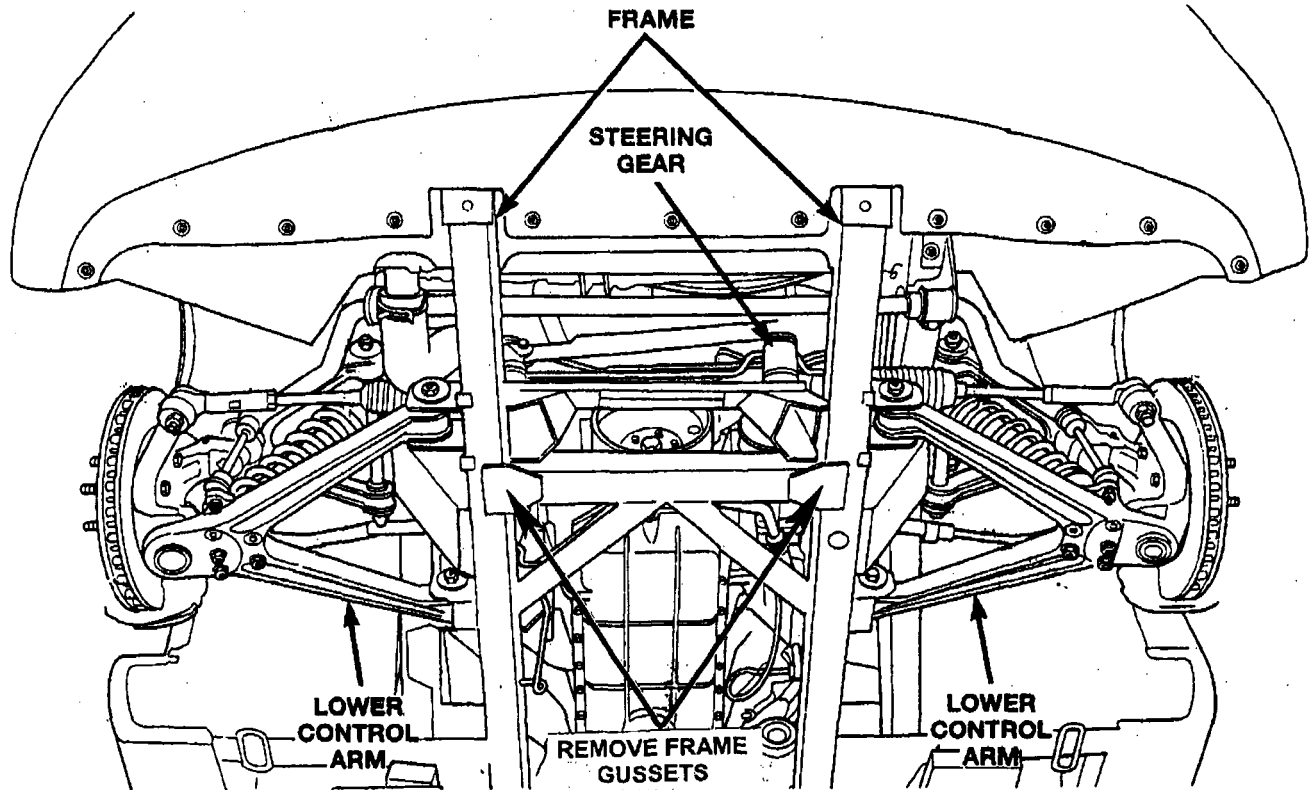

Figure 10 – Bottom View
1. Using a cut off wheel or grinder, grind off the welds that hold the left and right side frame rail gussets to the frame rails (Figure 10).